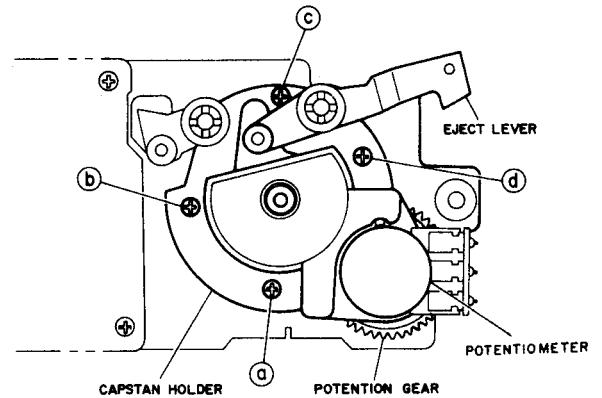

Fig. 4-12
- 3) Remove capstan holder securing screws (A), (B), (C) and (D). Remove the capstan holder. (See Fig. 4-12.)